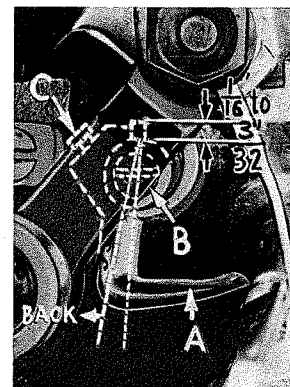

Fig. 8
Insert upper looper (A, Fig. 8) in its holder. Screw (B) holds upper looper in its holder, and permits it to be pushed in or out, or turned around its shank. Insert upper looper holder into upper looper shaft, if it is not already in place. Screw (C) on clamp holds the upper looper hold-
When the upper looper is at the right end of its stroke, upper looper holder should be set to position upper looper shank back of vertical (Fig. 8). Be sure there is a clearance between heel of looper and casting.